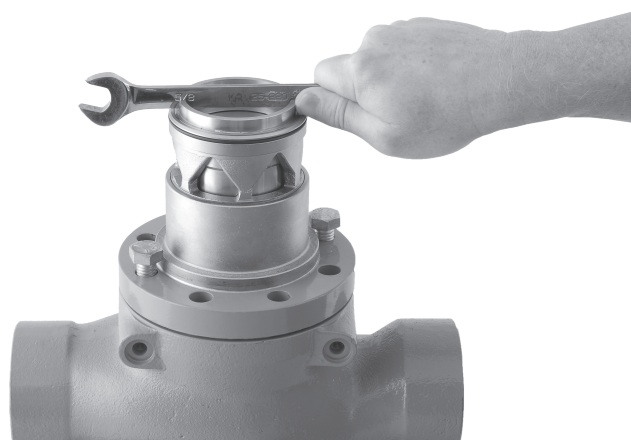

Figure 10. Seat Ring / Cage Removal Using Body as Holding Fixture
3. Use the valve body (key 1) as a holding fixture if desired. Flip the body flange (key 2) over and anchor it on the valve body as shown in Figure 10, removing the pipe plug (key 31) first if necessary.
4. To gain access to the port seal (key 12), upper seal (key 15) or valve plug (key 16) part, unscrew the seat ring (key 13) from the cage (key 11) and the cage from the body flange (key 2). For leverage, a wrench handle or similar tool may be inserted into the seat ring slots (Figure 10) and a strap wrench may be wrapped around a standard or a Whisper Trim™ Cage or a soft bar may be inserted through the windows of a standard cage. To remove the piston ring (key 14) and/or plug O-ring (key 20), remove the valve plug (key 16) from the body flange, insert a screwdriver into the precut fold over area of the piston ring and unfold the piston ring. Proceed to step 6 if no further maintenance is necessary.
5. To gain access to a part in the travel indicator assembly, remove the indicator protector (key 19) and indicator scale (key 18). Since some compression is left in the spring, carefully remove the flanged nut (key 22) and hex nut (key 8). A screwdriver may be inserted through the press-fit bushing (key 6) to remove the stem O-ring without removing the bushing. If necessary, unscrew the travel stop (if used) and unclip the E-ring from the indicator stem.